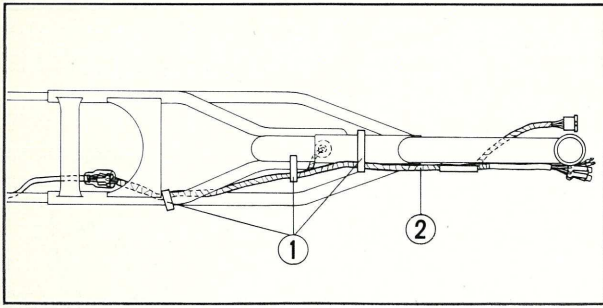

Fig. 2-60 ① Wire harness band
4. Attach wire harness as in Fig. 2-60 and fix it with a wire harness band.